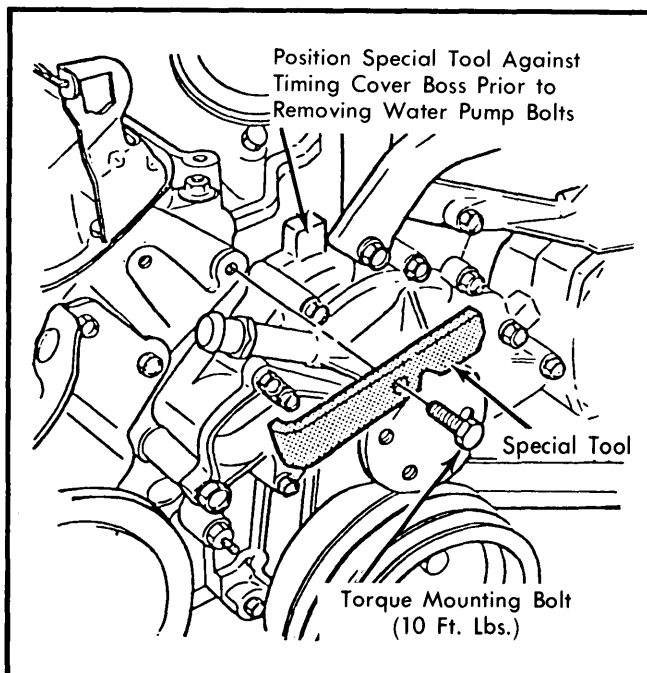

Fig. 11 Installing Special Tool for Water Pump
**NOTE** — If removing water pump without front cover, it is necessary to use special tool J-29176 (or equivalent) to hold front cover in place. Any movement of front cover at this time may cause internal or external water leaks at cover to block sealing surface. See Fig. 11.